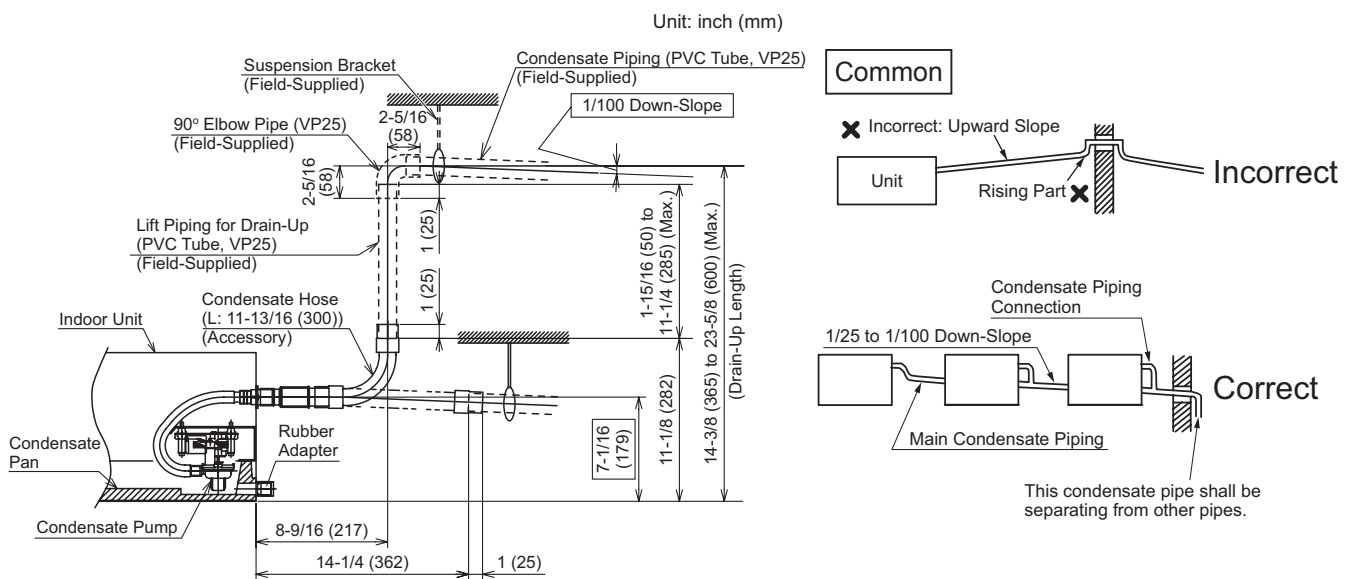

Figure 7.1 Condensate Piping
- (1) The position of the condensate pipe connection is shown in Figure 7.1.
- (2) Prepare a polyvinyl chloride (PVC) pipe with 1-1/4 inches (32mm) outer diameter.
- (3) Fasten the tube to the condensate hose with the adhesive agent and the field-supplied clamp. The condensate piping must be performed with a downward slope of 1/25 to 1/100.
- (4) Insulate the condensate pipe after connecting the condensate hose.